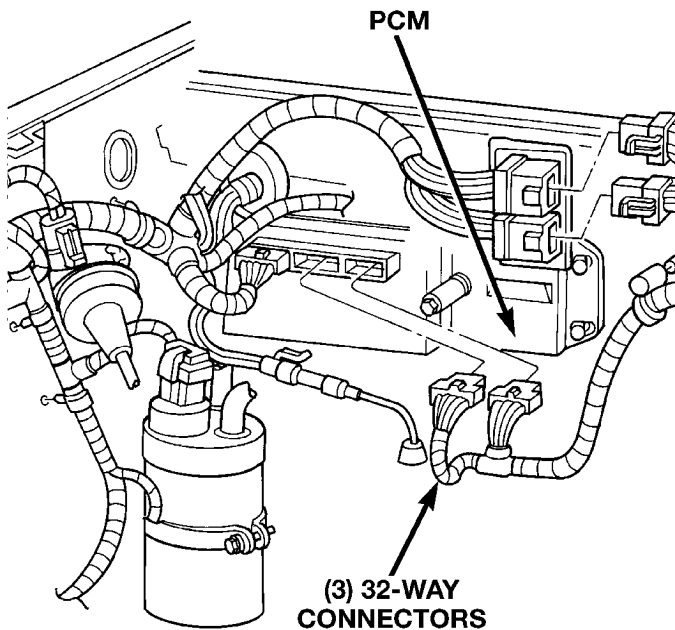

Fig. 35 Powertrain Control Module (PCM)
(1) Verify that the three 32-way electrical connectors are fully inserted into the connector of the powertrain control module (PCM) (Fig. 35).